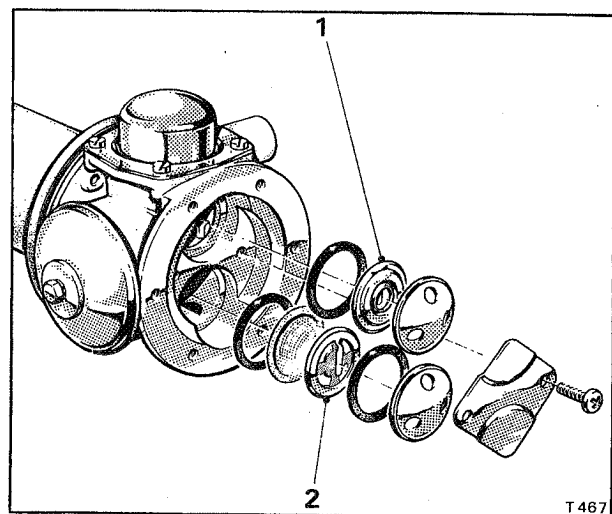

Fig. K25 Valve assembly
21. Assemble the inlet valve (see Fig. K25) into the inlet recess of the pump body (the inlet recess is deeper than the outlet recess) in the following order, rubber 'O' ring, filter (domed side in), rubber 'O' ring, valve assembly (tongue side out) and finally the valve cap (domed side out).
22. Assemble the outlet valve (see Fig. K25) into the outlet recess of the pump body in the following order, rubber 'O' ring, valve assembly (tongue side in) and valve cap (domed side out).